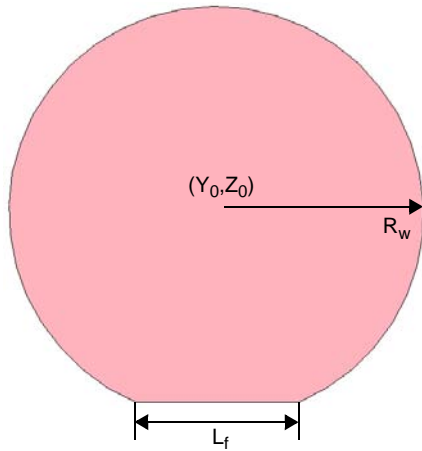

Figure 130 Wafer mask-shaped polygon
- Other parameters give the location and size for the mask (see Figure 130 on page 740).